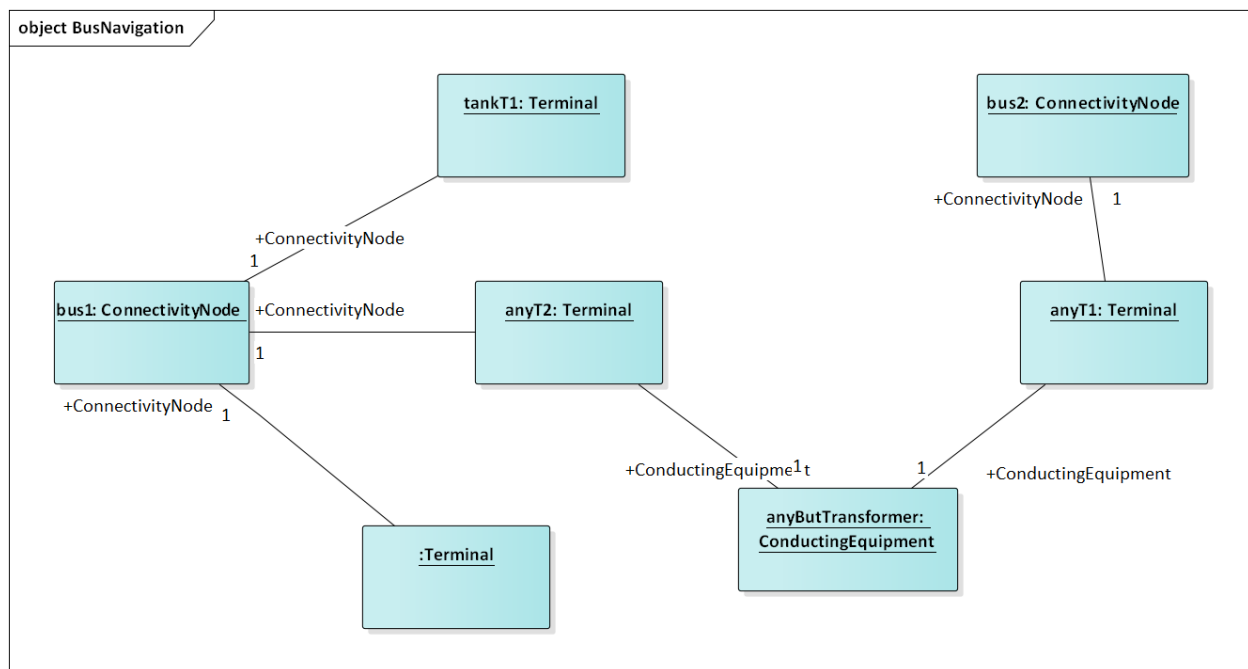

Figure 18: In order to traverse buses and components, begin with a `ConnectivityNode` (left). Collect all terminals
1. Capacitors (Figure 5, Figure 18, Figure 19, Figure 20)
2. Regulators (Figure 7, Figure 8, Figure 18, Figure 35)
4. Lines (Figure 2, Figure 10, Figure 18)
1. Each object will be an instance of a class, and more than one instance of a class can appear on the diagram. For example, Figure 18 shows two `ConnectivityNode` instances, one for each end of a `ConductingEquipment`.
4. Object associations are shown with solid lines, role names, and multiplicities similar to the UML class diagrams. One important difference is that only one way of navigating a particular association will be defined in the profile. For example, the lower left corner of Figure 1 shows a two-way link between `Terminal` and `ConnectivityNode` in the UML class diagram. However, Figure 18 shows that only one direction has been defined in the profile. Each `Terminal` has a direct reference to its corresponding `ConnectivityNode`. In order to navigate the reverse direction from `ConnectivityNode` to `Terminal`, some type of conditional query would be required. In other words, the object diagrams in this section indicate which associations can actually be used in GridAPPS-D.
Often, the question will arise “what phases exist at this bus?”. There is no phasing explicitly associated with a `ConnectivityNode`, and we don’t use the `Terminal` `phases` attribute in preference to the “wires phase model” classes. For example, the phases at a line segment terminal can always be obtained from the `ACLineSegmentPhase` instances. To answer the question about bus phasing, we’d have to query for all `ConductingEquipment` instances having `Terminals` connected to that bus, as in Figure 18. The types of `ConductingEquipment` that may have individual phases include `LinearShuntCompensators` (Figure 20), `ACLineSegments`, `PowerTransformers` (via `TransformerEnds`), `EnergyConsumers`, `EnergySources`, `PowerElectronicsConnections`, and descendants of `Switch`. If the `ConductingEquipment` has
Figure 26: This Asset catalog example defines the impedances for Tank B of the open wye – open delta bank. This is a 50 kVA, 7200 / 240 V single-phase transformer. It has 1% exciting current and 0.4 kW loss in the no-load test, plus 2.1% reactance and 0.5 kW loss in the short-circuit test. A multi-winding transformer could have more than one grounded end in a short-circuit test, but this is not common. The catalog data is linked with an AssetDataSheet association shown to the left. Furthermore, endNumber on the TransformerEndInfo has to match endNumber on the TransformerTankEnd instances associated to Tank B. Instead of catalog information, we could have used mesh impedance and core admittance as in Figure 18, but we’d have to convert the test sheets to SI units and we could not share data with other TransformerTank instances, both of which are inconvenient.